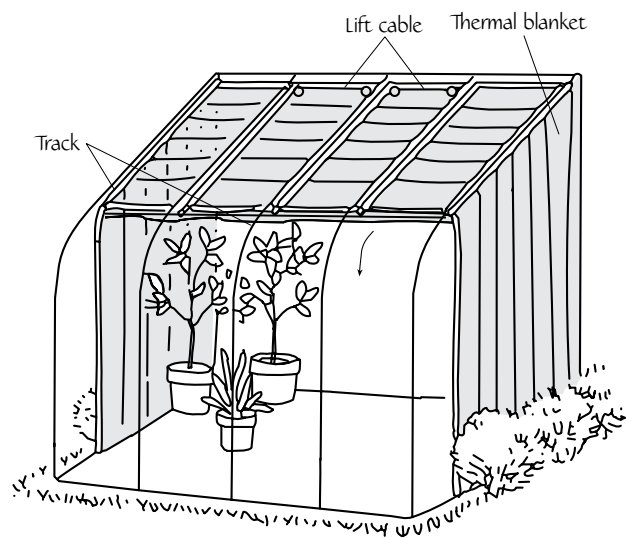

Figure 6-26. Thermal blanket system for an attached greenhouse; side blanket is attached to top blanket
- Design the installation so that the blanket will store in a convenient location. In attached greenhouses, this is usually in the ridge against the house (figure 6-26). In freestanding models, it is often better to store the blanket against one